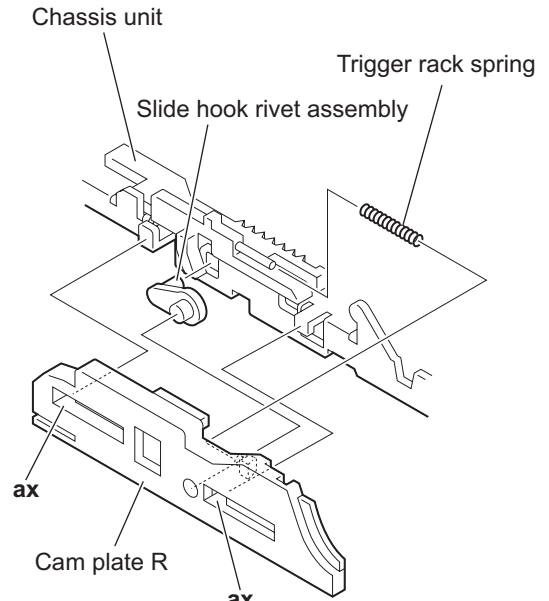

Fig.25
(See Fig.25)
(See Figs.25 and 26)
- Remove the slide hook rivet assembly and trigger rack spring from the chassis unit. (See Fig.25.)